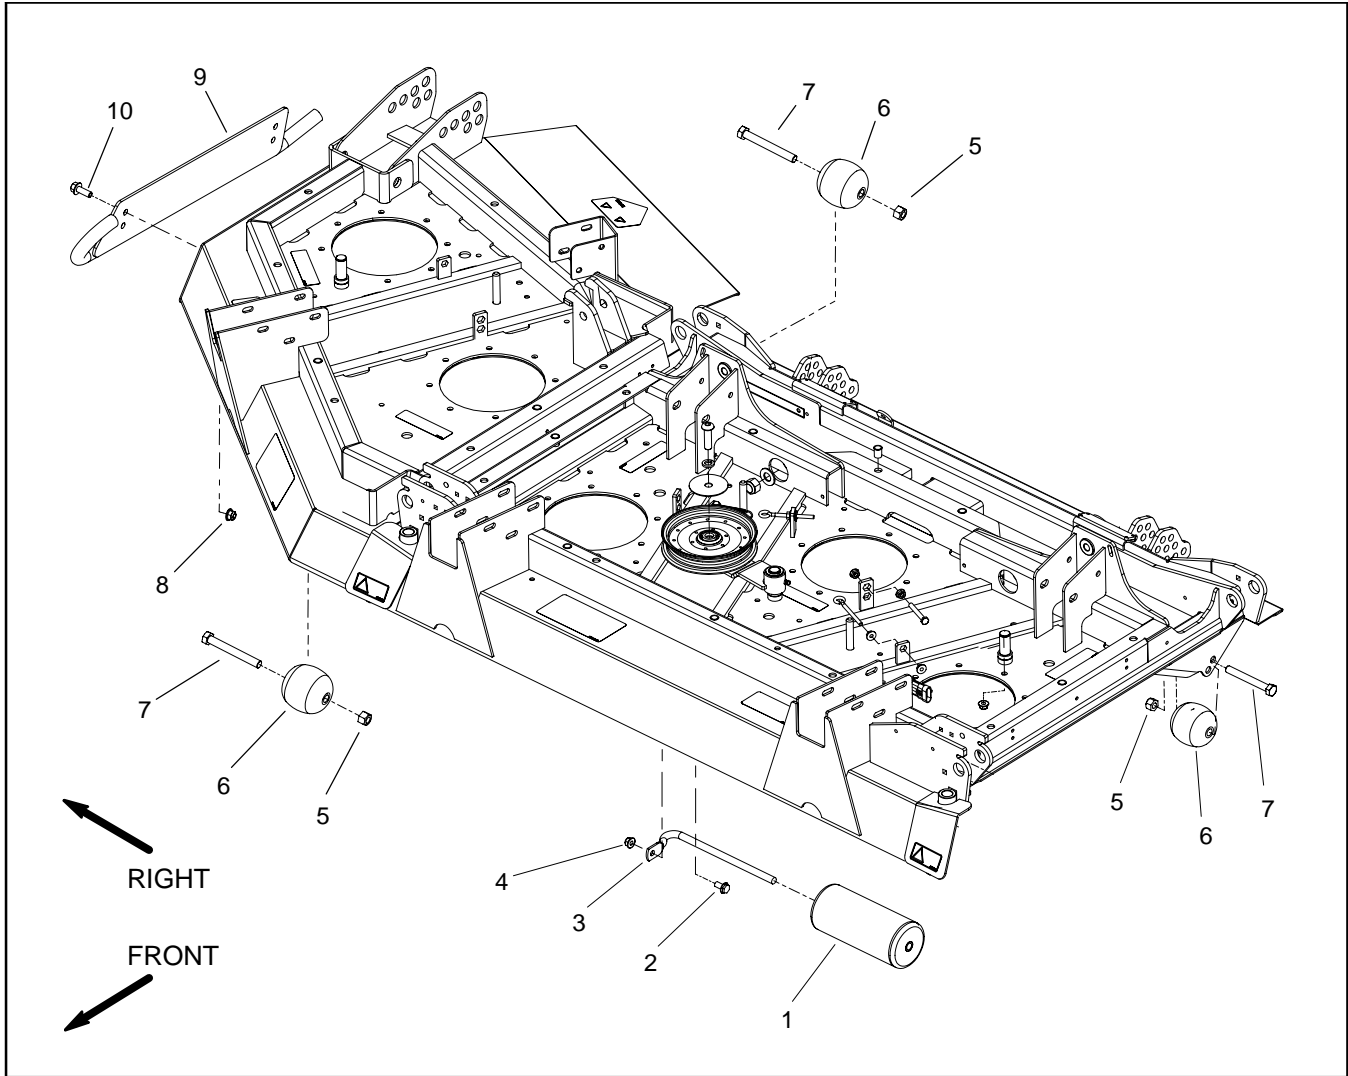

Figure 23
Removal (Fig. 23)
1. Remove skids and rollers from deck using Figure 23 as a guide.
Installation (Fig. 23)
1. Install skids to deck using Figure 23 as a guide. Make sure to install skids in the same mounting hole height position (lower or upper).
2. When installing roller (item 6), install cap screw with the threads orientated toward the centerline of the deck. Install and tighten lock nut until roller will not rotate, then loosen lock nut only enough to allow roller to rotate freely. Make sure to install all deck rollers in the same mounting hole height position (lower or upper).